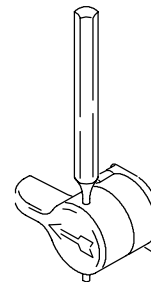

Fig. 6
9. Fig. 6. Install knob (A) over base (C).
11. Insert end of pin punch through hole in knob (A), to make sure knob and valve stem are properly aligned.